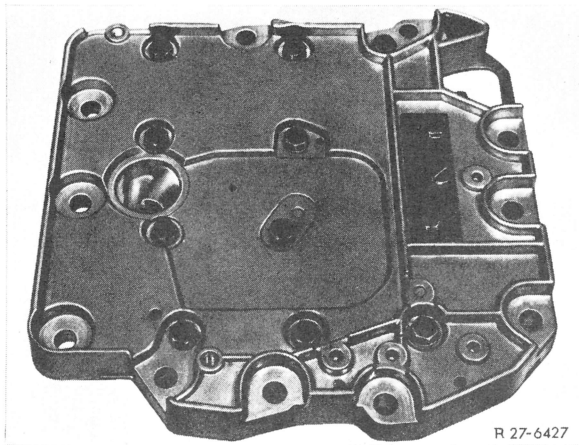

Fig. 1
**1** Loosen hex. bolts from bottom and screw out except for two opposite bolts (Fig. 1).
**23** Hold intermediate plate (E) and top (B) tightly together, turn around and place on bottom.
**25** Remove shift valve housing from assembly fixture, insert remaining bolts and tighten to 8 Nm (0.8 kpm) from inside out (Fig. 1).